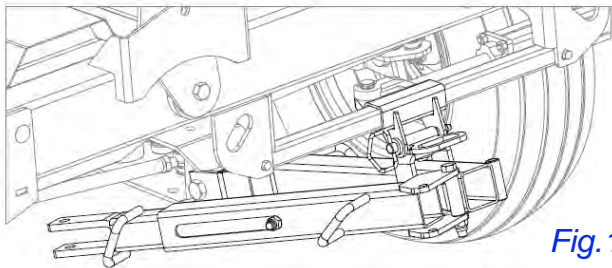

Fig.1
3. Fold tongue and pin to steering slider tube. See Fig.1.